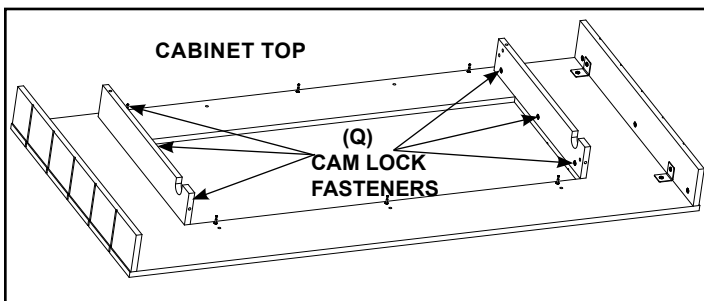

Figure 12
- Turn each of the six (6) Cam Lock Fasteners (Q) clockwise 1/4 turn shown in Figure 12. Refer to Step 4.